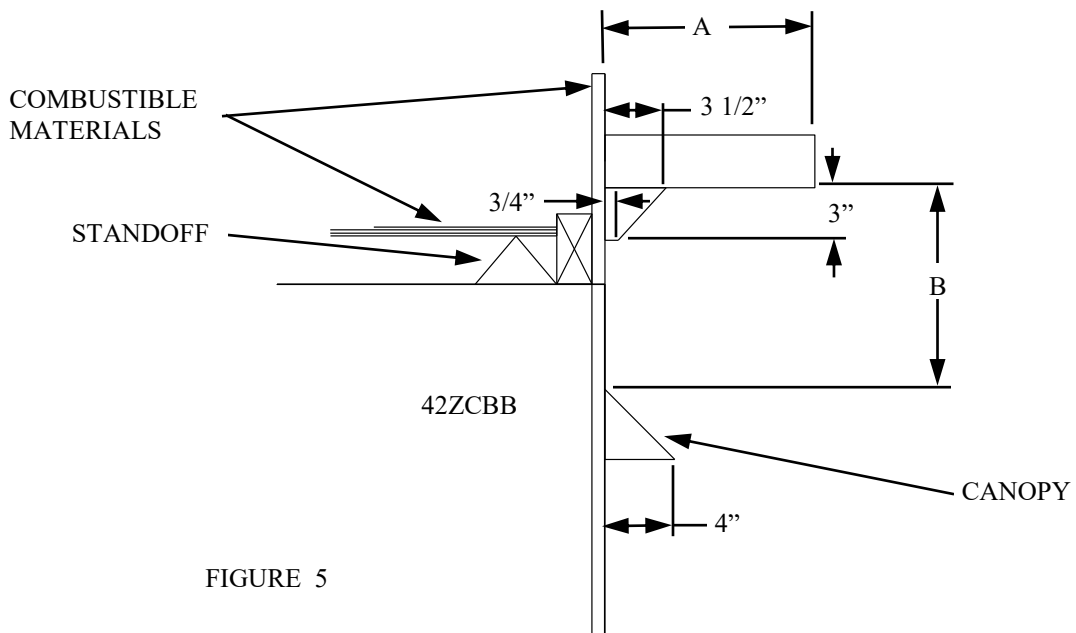

FIGURE 5
3. **Mantel Clearances:** See Figure 5. Non-combustible materials used in this installation such as slate, tile, marble, etc. must be at least 1/2" thick.